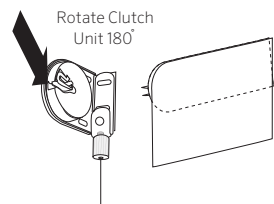

Fig 3
- a. Insert the clutch plug into the clutch unit (Fig 3).
- b. Insert the idle end plug into the idle end unit, and snap the idle end plug securely into place (Fig 3).